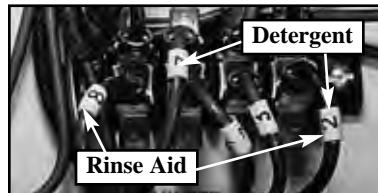

Figure 3
1. Labeled connection points (See Fig. 3) are provided inside the control cabinet for chemical dispensing equipment (supplied by others).